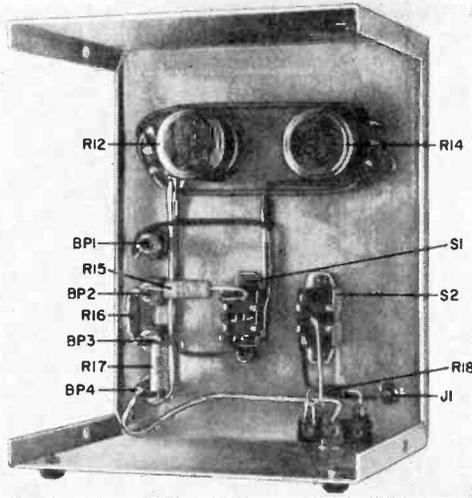

Fig. 2. Rear view of front panel showing component mounting. The four rubber feet are optional.
has to be removed. Always remember, you are making a negative, so the parts to be left copper must be transparent, while the parts to be etched away must be opaque. Because the art work in the magazine is usually black, use a contrasting color of opaque paint for drawing clarity. Don't forget a tiny dot of color where holes will have to be drilled through the foil. A razor blade edge can be used to "clean up" any slight mistakes. India ink is not recommended, as it may bead on most plastics and may not produce a sufficiently opaque coating. A typical sequence is illustrated in Fig. 2. While the paint is drying, prepare the copper-clad board.
Fig. 2. If you are making your own negative, the first step in preparing a PC board is to place a piece of transparent plastic over the foil pattern. Using opaque paint, fill in areas where copper is to be removed. When it is completed. . . .
**Construction.** The audio voltage standard is assembled in a 6" × 5" × 4" metal enclosure, whose front-panel layout is shown in Fig. 2. The rest of the components are mounted on a pair of printed-circuit boards attached to the back of the front panel. Two circuit boards are used so that the twin-T frequency-determining network can be a separate, interchangeable unit. It is mounted on the main PC board using three 5/8"-high aluminum-alloy spacers and three 4-40 binder-head screws. Thus when it is desired to change the basic operating frequency of the standard, it